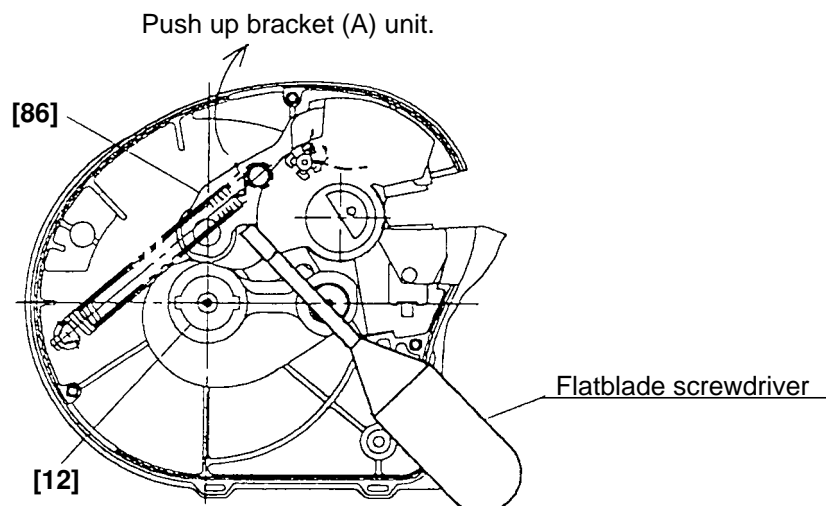

Fig. 16
(6) Removal of the cam shaft unit (Fig. 16)
Push up Bracket (A) [86] with a flatblade screwdriver and mount the cam shaft unit (Fig. 16).